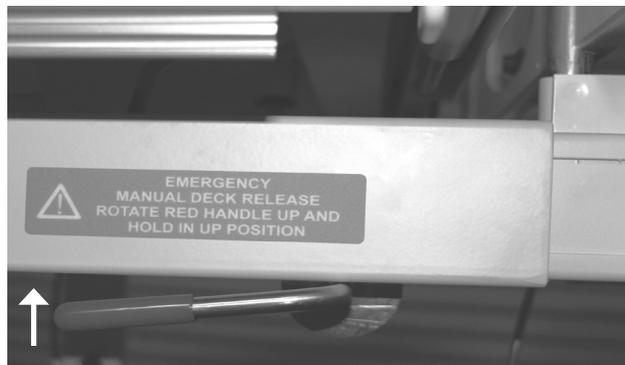

Figure 3
2. To return mattress support platform to flat position in case of power and battery backup failure, rotate Emergency Manual Release lever **Up** (Figure 3). Hold Emergency Release handle **Up** until mattress support platform lowers to desired position. Release handle if you need to stop descent.